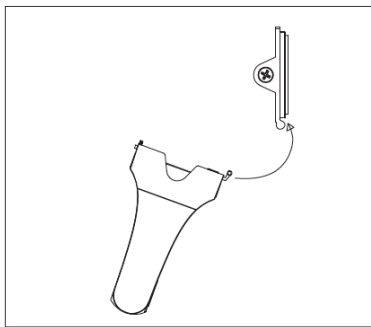
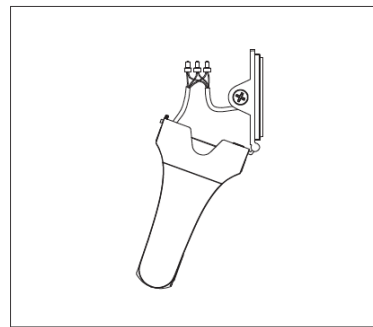

Figure 8
Figure 9
Step 6: Buckle the rotating shaft of the lamp base from the back of the cover and connect the wires properly (Figure 8 & Figure 9) ;